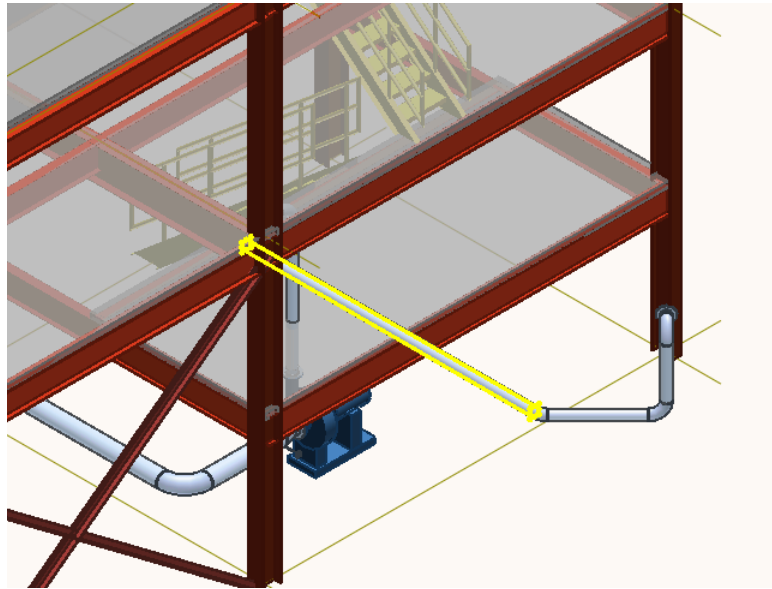

Figure 5: The Pipe Straight Feature 2001-P
- 2- In the select straight feature smartstep, select the pipe straight feature **2001-P** that will be supported. The selected pipe straight feature should resemble Figure 5.